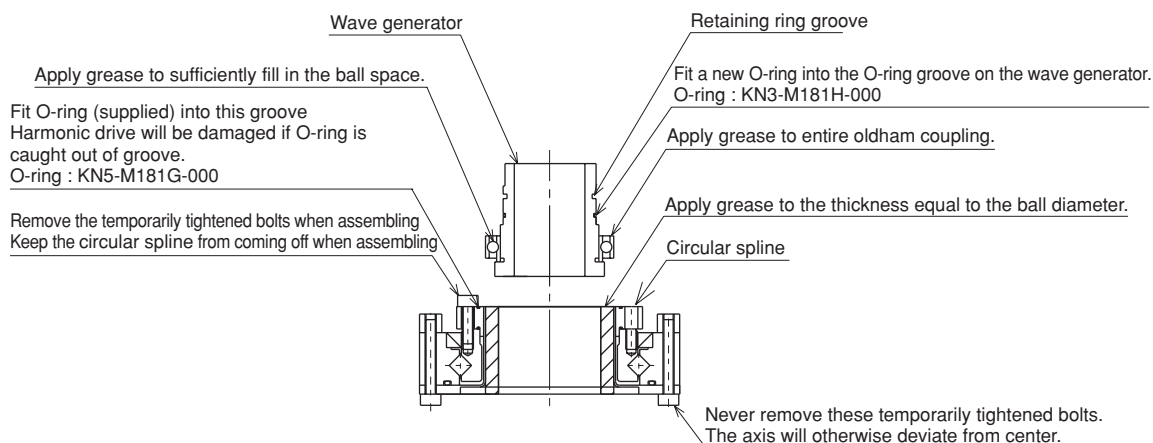

Fig. 5-16
- 13) Remove the retaining ring for the wave generator and pull out the wave generator from the bottom of the Y-axis arm. (See Fig. 5-16.)
- 14) Apply harmonic grease to the new wave generator. See Fig. 5-16 for applying grease properly.
- 15) Fit a new O-ring into the O-ring groove on the wave generator. (See Fig. 5-16.)
- 17) Apply harmonic grease to the circular spline. See Fig. 5-16 for applying grease properly.
REMOVE ONLY THE FOUR BOLTS SHOWN IN FIG. 5-16 AT THIS POINT. NEVER REMOVE THE BOLTS ON THE OPPOSITE SIDE. IF THEY ARE REMOVED, THE HARMONIC DRIVE AXIS MAY DEVIATE FROM THE CENTER CAUSING TROUBLE.